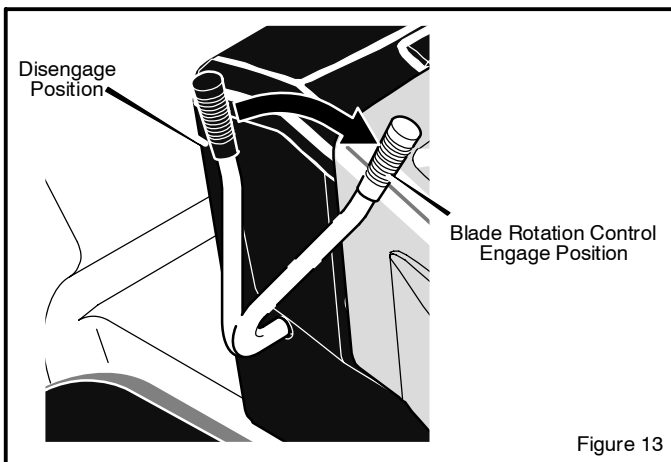

Figure 13
2. Move the **blade rotation control** to the **DISENGAGE position** (Figure 13).